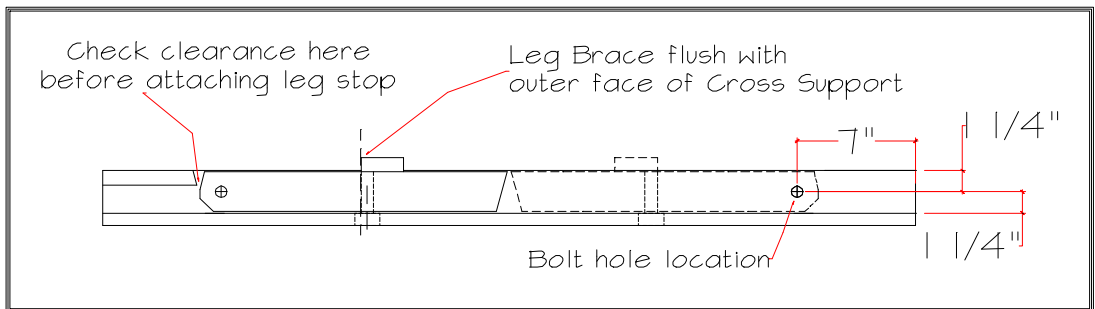

Fig. 12
With the legs in the folded position, place each leg brace across the legs so that the edge facing the end of the unit is flush with the outer face of the cross support (see **Fig. 12**) and screw them into place with (2) screws at each end.